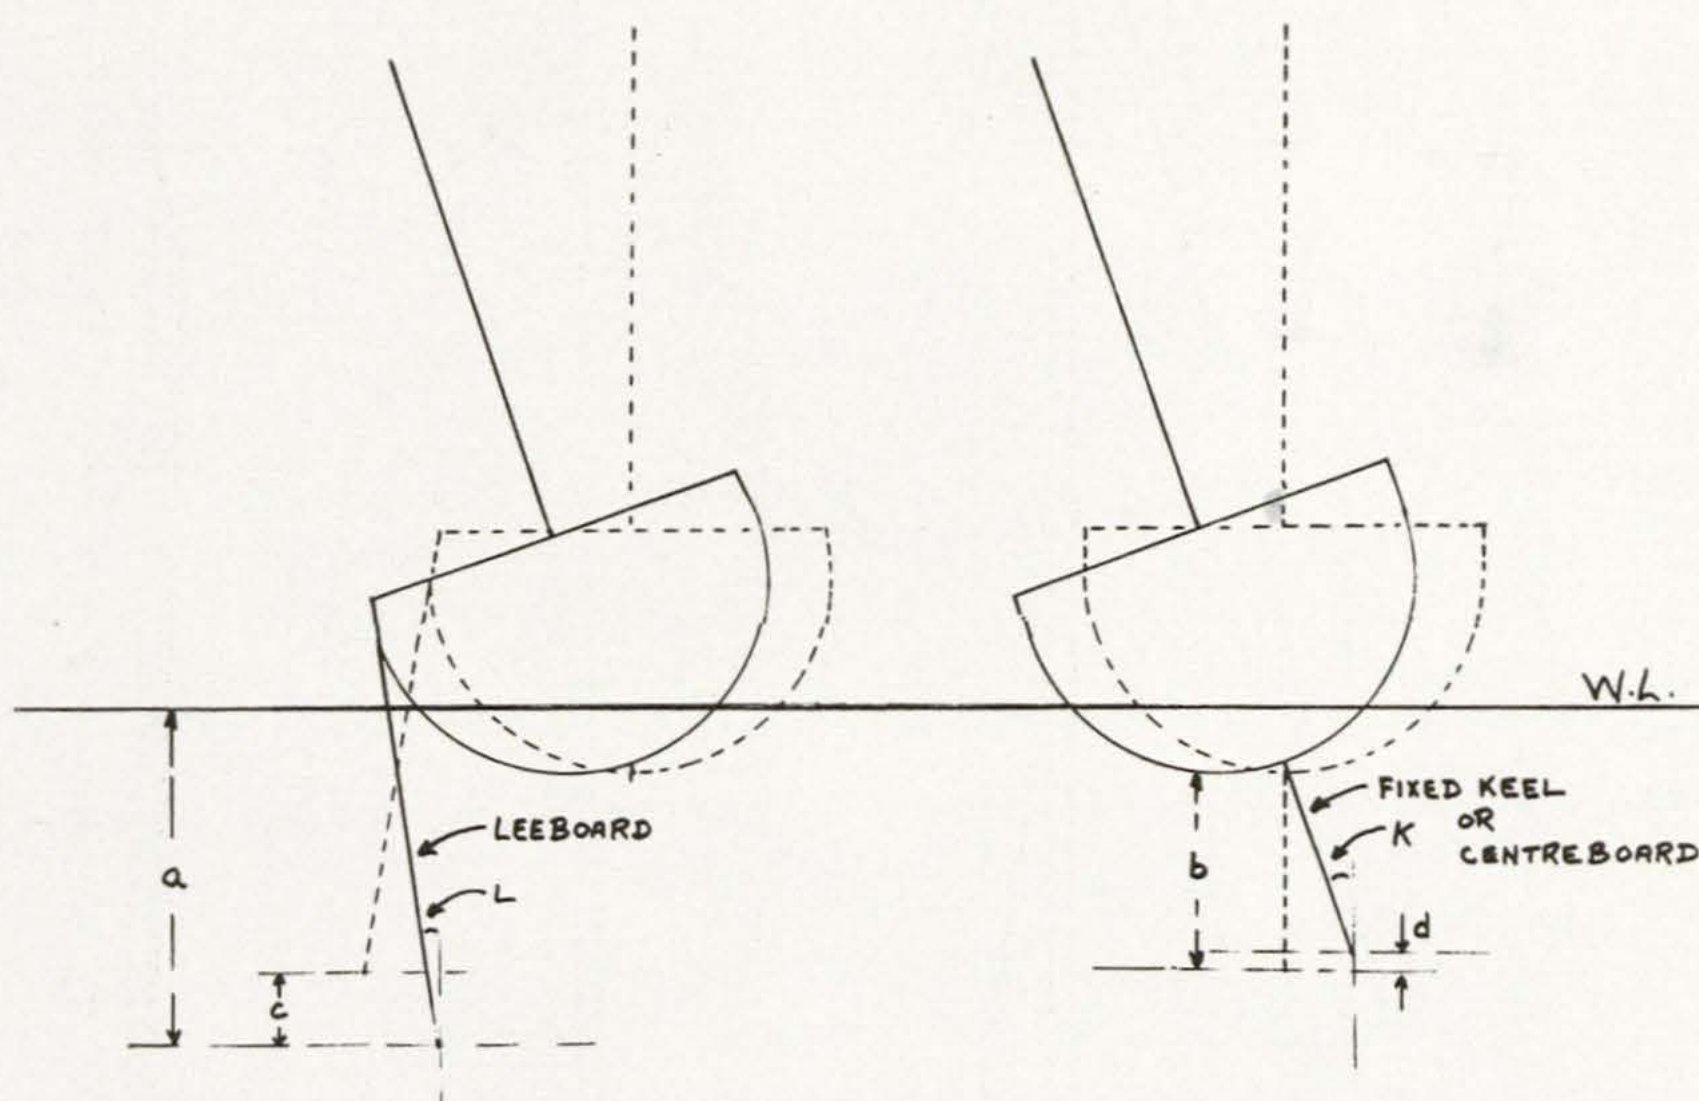

Fig. 2
- (1) Very suitable for shallow water sailing, as not only may the operating depth of the board be varied at will, but the centre of lateral resistance may be maintained within reasonably wide limits by moving the pivot fore or aft. Furthermore, in water deep enough to take the hull only, a leeboard can still provide sufficient lateral resistance for windward sailing. Under such conditions a centre-board would be fully retracted and lateral resistance would be minimal with a round bilge hull. Fig. 2 illustrates the larger and more effective area for lateral resistance in the vertical plane of the leeboard, compared with a central plate, especially when heeling or in shallow water.
- (2) Operating on the outside of the hull, no internal space is required by a centreboard casing with its attendant weaknesses and inconveniences.
- (3) Ready accessibility of all parts while the boat is afloat. It is a simple matter to lift a leeboard on deck for repair or maintenance.
- (4) In the event of accidental grounding with a leeboard "down", there is far less danger of damage than with some centre boards or dagger boards which cannot be retracted because of bending and jamming in the centre-board case from this or other causes.
- (5) In common with centre boards, leeboards may be fully retracted for taking the ground, for sailing off the wind, and for "heaving to" in rough conditions.